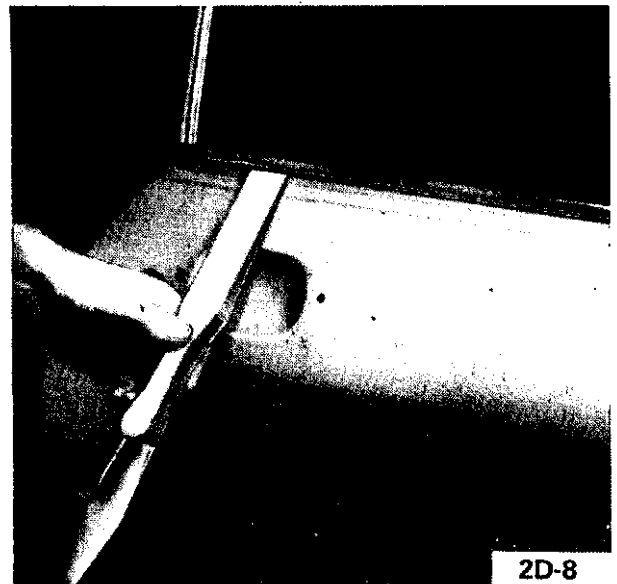

Figure 2D-8 Removing Molding
2. With a wooden wedge, pry off molding towards the top. See Figure 2D-8.